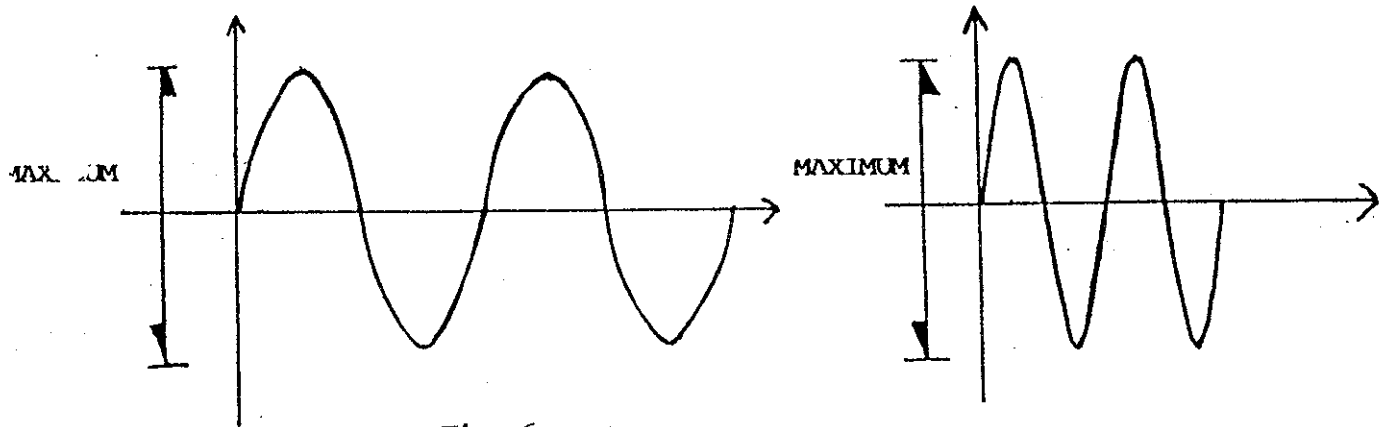
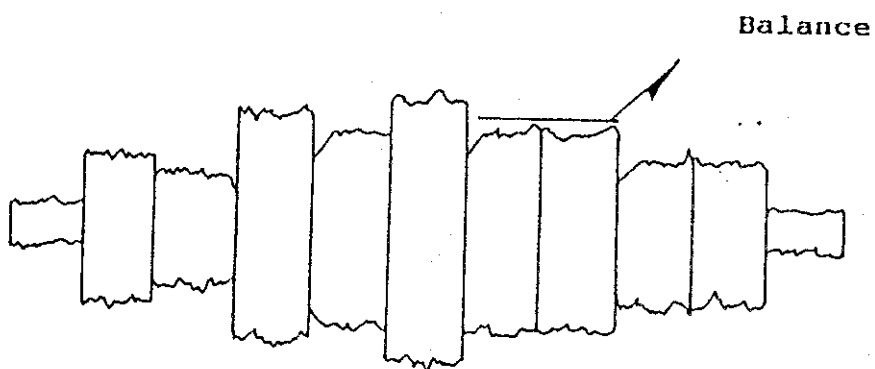

Fig. 6
Fig.7
- (1) Receive color bar pattern (with stereo and Dual Sound).
- (2) Connect oscilloscope to TP001 and TP002.
- (3) Adjust T001, VR001 and VR003 to obtain a maximum amplitude as Fig.6 & Fig. 7.
- (iii) Turn T305 to obtain waveform as Fig.7.